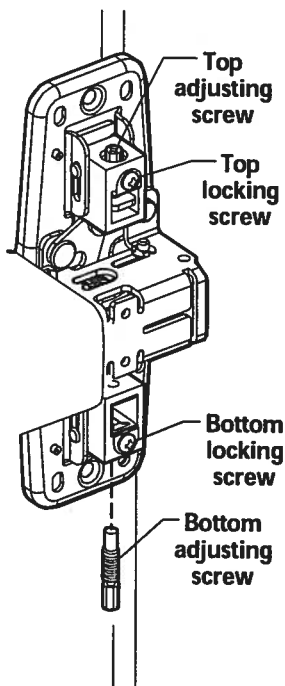

Figure 2
2. Loosen bottom locking screw (Figure 2).
10. Install bottom adjusting screw through bottom rod (Figure 2).